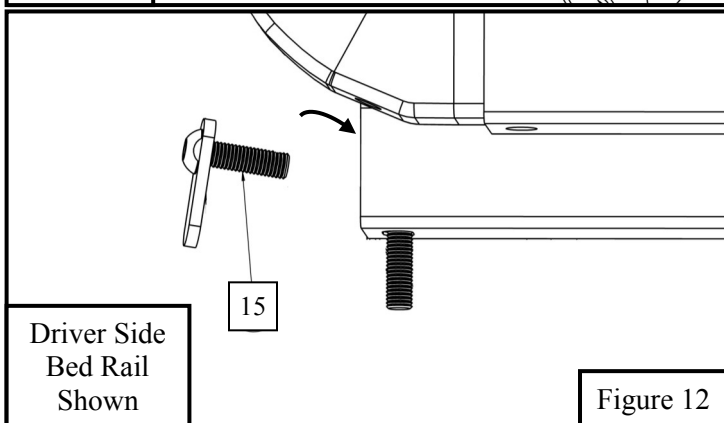

Figure 12
12. If there is only an existing hole insert supplied M10 bolt plate (Item 15) through existing hole. Then Install Top Isolator Bracket (Item 10) with supplied M10 hardware and Factory M12 Bolt. See **Figures 12 and 13**